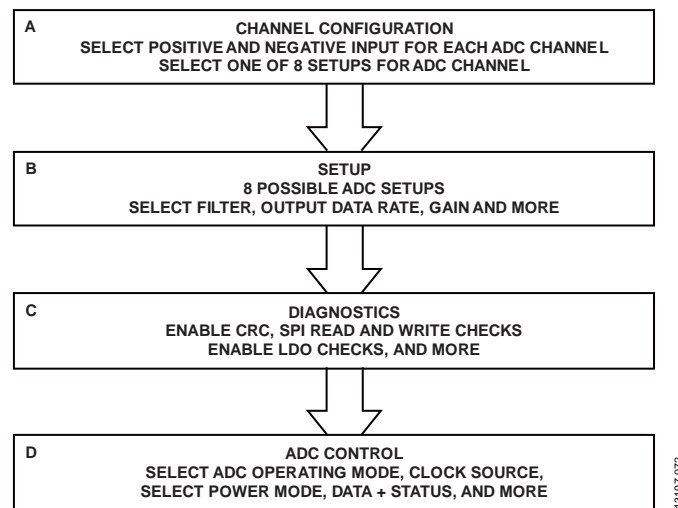

Figure 69. Suggested ADC Configuration Flow
Figure 69 shows an overview of the suggested flow for changing the ADC configuration, divided into the following three blocks:
- Channel configuration (see Box A in Figure 69)
- Setup (see Box B in Figure 69)
- Diagnostics (see Box C in Figure 69)
- ADC control (see Box D in Figure 69)